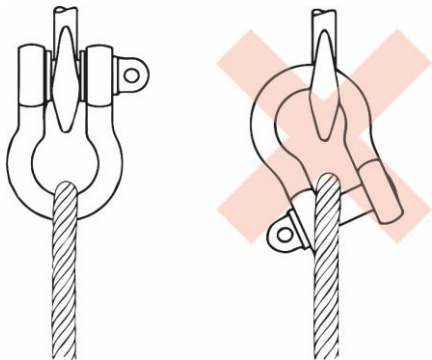

Figure 3
- Avoid uses in which, due to movement (e.g., load or cable), the shackle pin might rotate and eventually get loose (see figures 3 and 4).